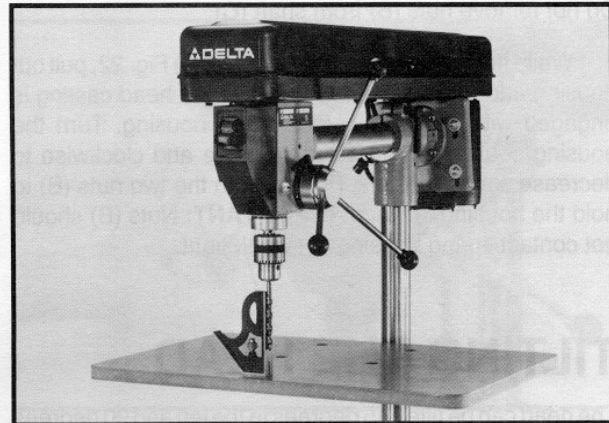

Fig. 27
3. Place a drill bit in the chuck and a square on the table, as shown in Fig. 27, and check to see if the drill bit is 90 degrees to the table.